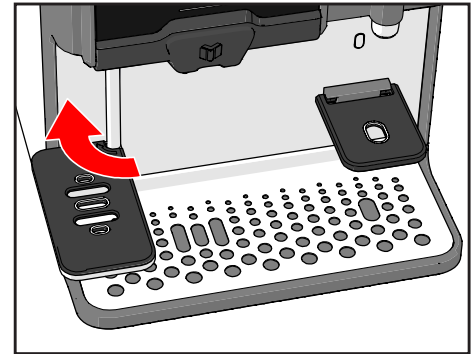
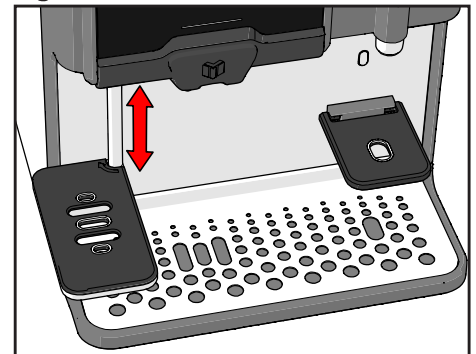

Figure 17.
Figure 18.
2. The coffee cup tray is adjustable in height. Turn the cup tray to the left (see Figure 17), and slide it up/down (see Figure 18) to reach the desired height. Now turn the cup tray back again.